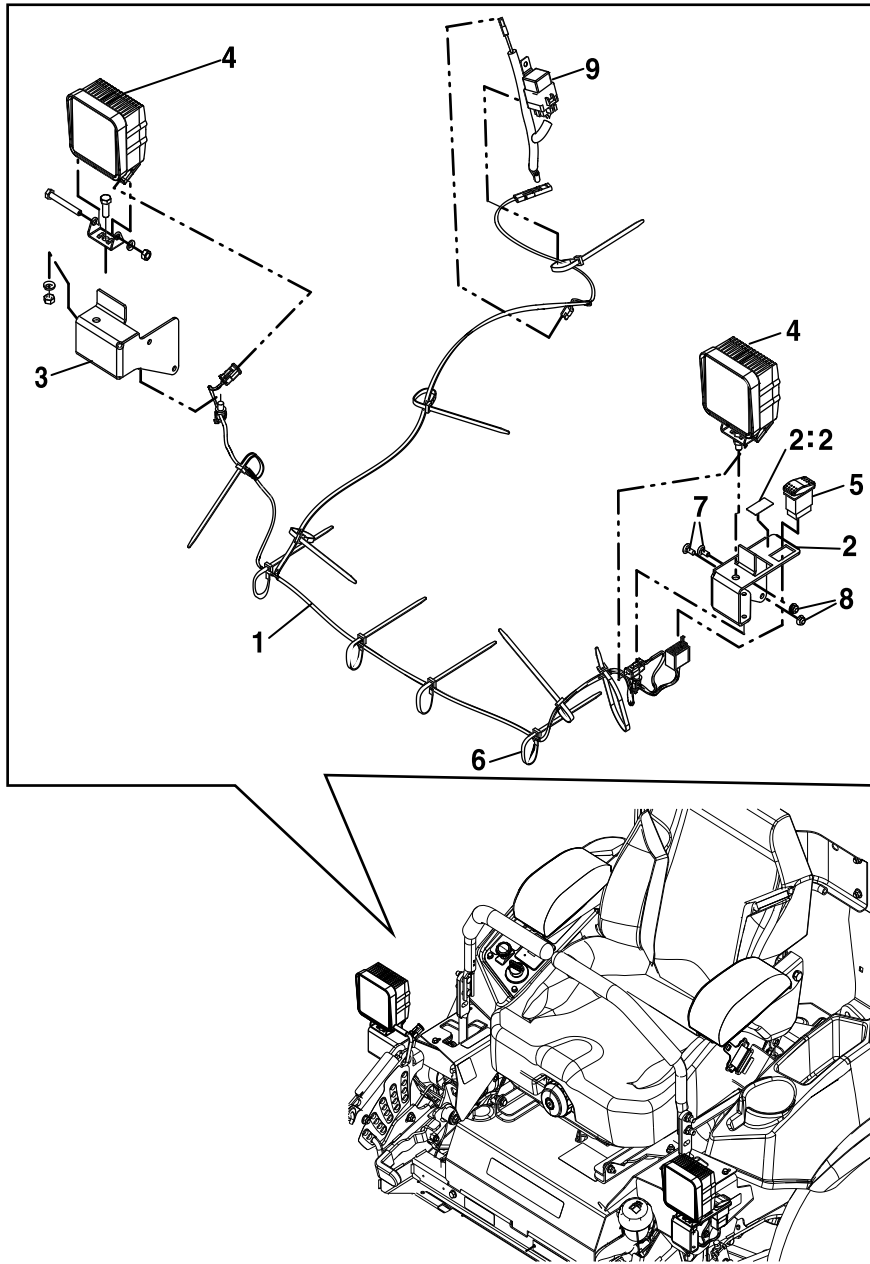

Figure 2
5. Install the light to the LH light bracket as shown in Figure 2.
8. Find the LH side of the wiring harness (see Figure 2).
14. Remove and retain the plug from the 12V accessory connector on the mower harness. If the current accessory connector has a two wire connector, connect it to the light harness directly. If the accessory plug has a three wire connector, connect the accessory connector to the accessory relay harness, item 9 in Figure 2.